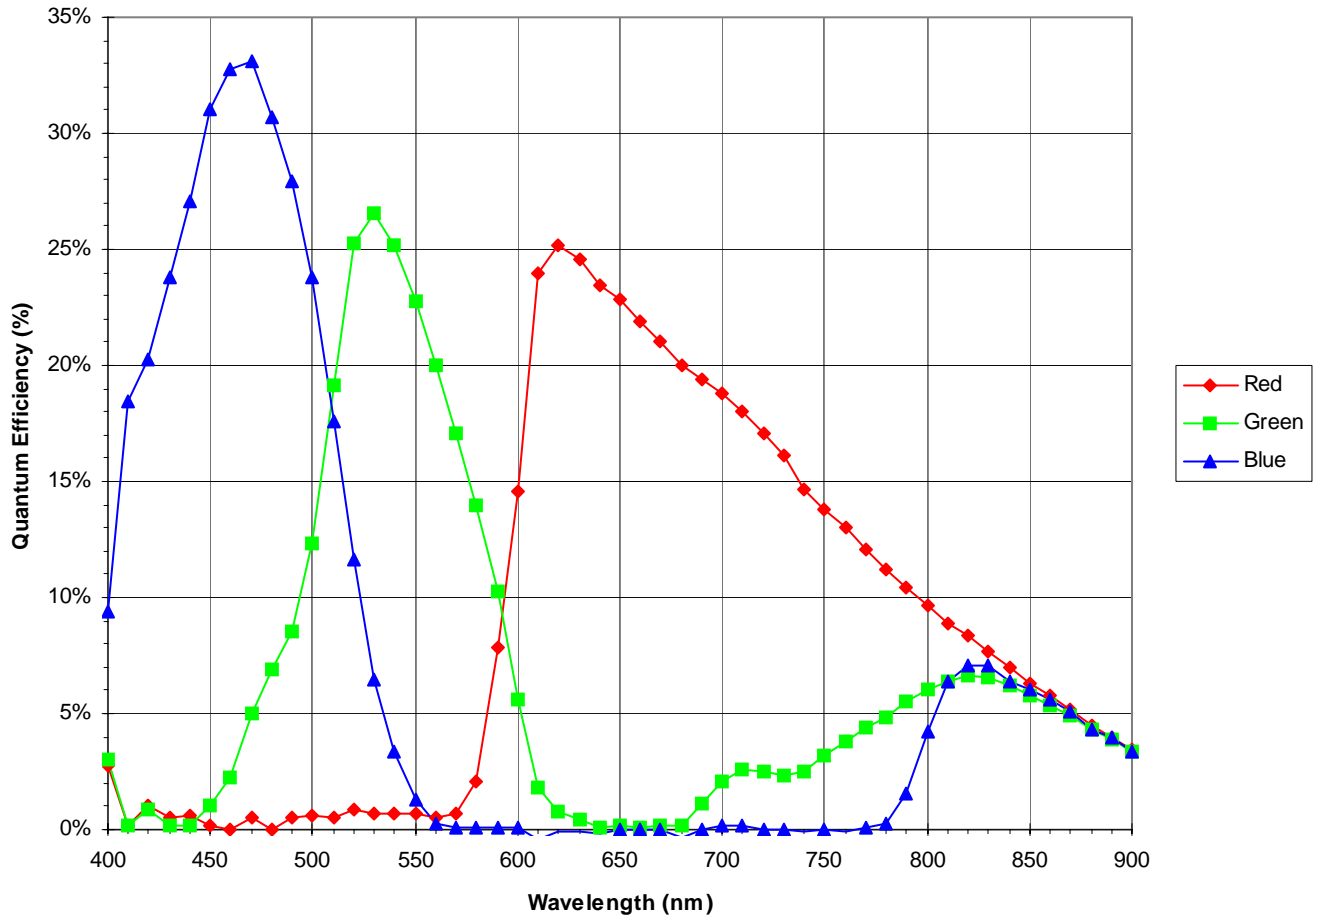

Figure 4: Nominal KAI-0330-CBA Spectral Response
2. Refer to typical values from Figure 4: Nominal KAI-0330-CBA Spectral Response.